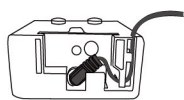

Fig 1
1. Place output plug of the adapter into the hole in the wall bracket and arrange the cable according to the track provided(Fig 1).